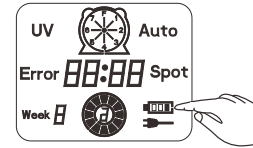
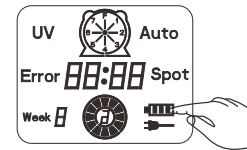

Figure 4
Figure 5
6. After the battery is used up, the first grid of the charging icon will flicker. The second and third grid will flicker when the cleaner is charging. When charging is completed it will stop flickering (Refer Fig 4 and Fig 5)